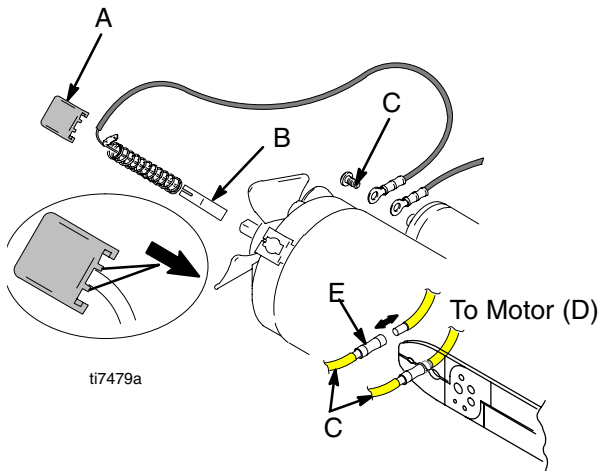

Fig. 4
- Fig. 4. Insert brush (B). Push cap (A) into place over brush. Orient each cap with the 2 projections on either side of the brush lead. You will hear a “snap” when cap is securely in place.
- Fig. 4. Install red (+) and black (-) motor leads according to tags. Install brush lead end with screw (C) to motor-mounted capacitor or route lead into control box and connect to board.